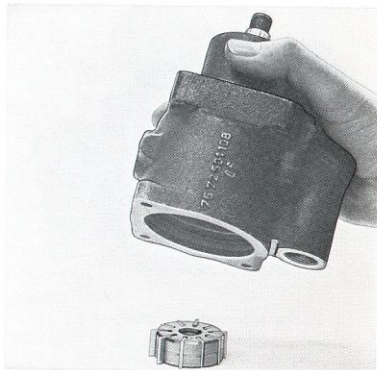
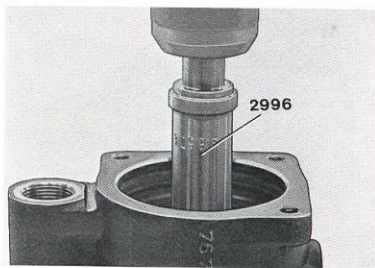

Fig. 6-105. Removing rotor
Fig. 6-106. Removing sealing ring
2. Remove the circlip (20) with polygrip pliers.
3. Remove the cover (19), spring (22) and plate (18). Use polygrip pliers.
4. Shake out the intermediate piece (16) and rotor (25), see Fig. 6-105. If it is not easy to remove the intermediate piece, allow it remain until later on.
5. Remove the circlip (5) at the drive end.
6. Carefully press out the shaft (4).
7. Press the plate (14) out of the housing. The intermediate piece should follow at the same time, if not already removed.
8. Screw out the plug (23) and shake out the spring (26) together with the valve (27).
9. Press out the needle bearing (9) and sealing ring (8) at the same time with tool 2996, see Fig. 6-106.